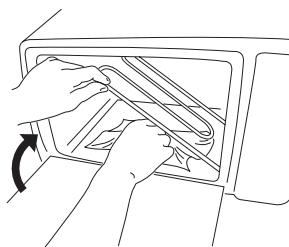

fig. 5
To make the bottom of the oven easier to clean, the lower heating element (L) must be raised by pulling it upwards and to the right (see Figure 5).